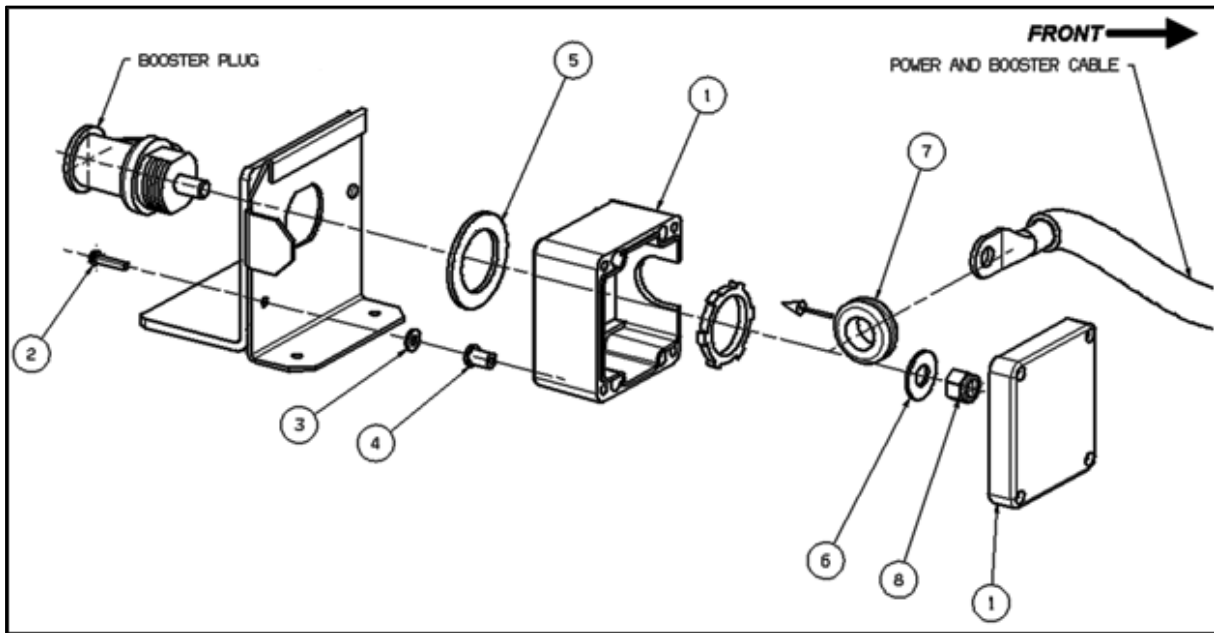

Figure 12
- i. Assemble bracket #063824 and separator #381210 with one 1/8x3/8 rivet, leaving the second hole blank. (Fig 12)
- j. Drill holes at previously marked locations and rivet support to frame with 504793 rivets (Fig. 12).
- l. Drill a new hole in bracket wall tab to rivet to wall.(Fig. 12)